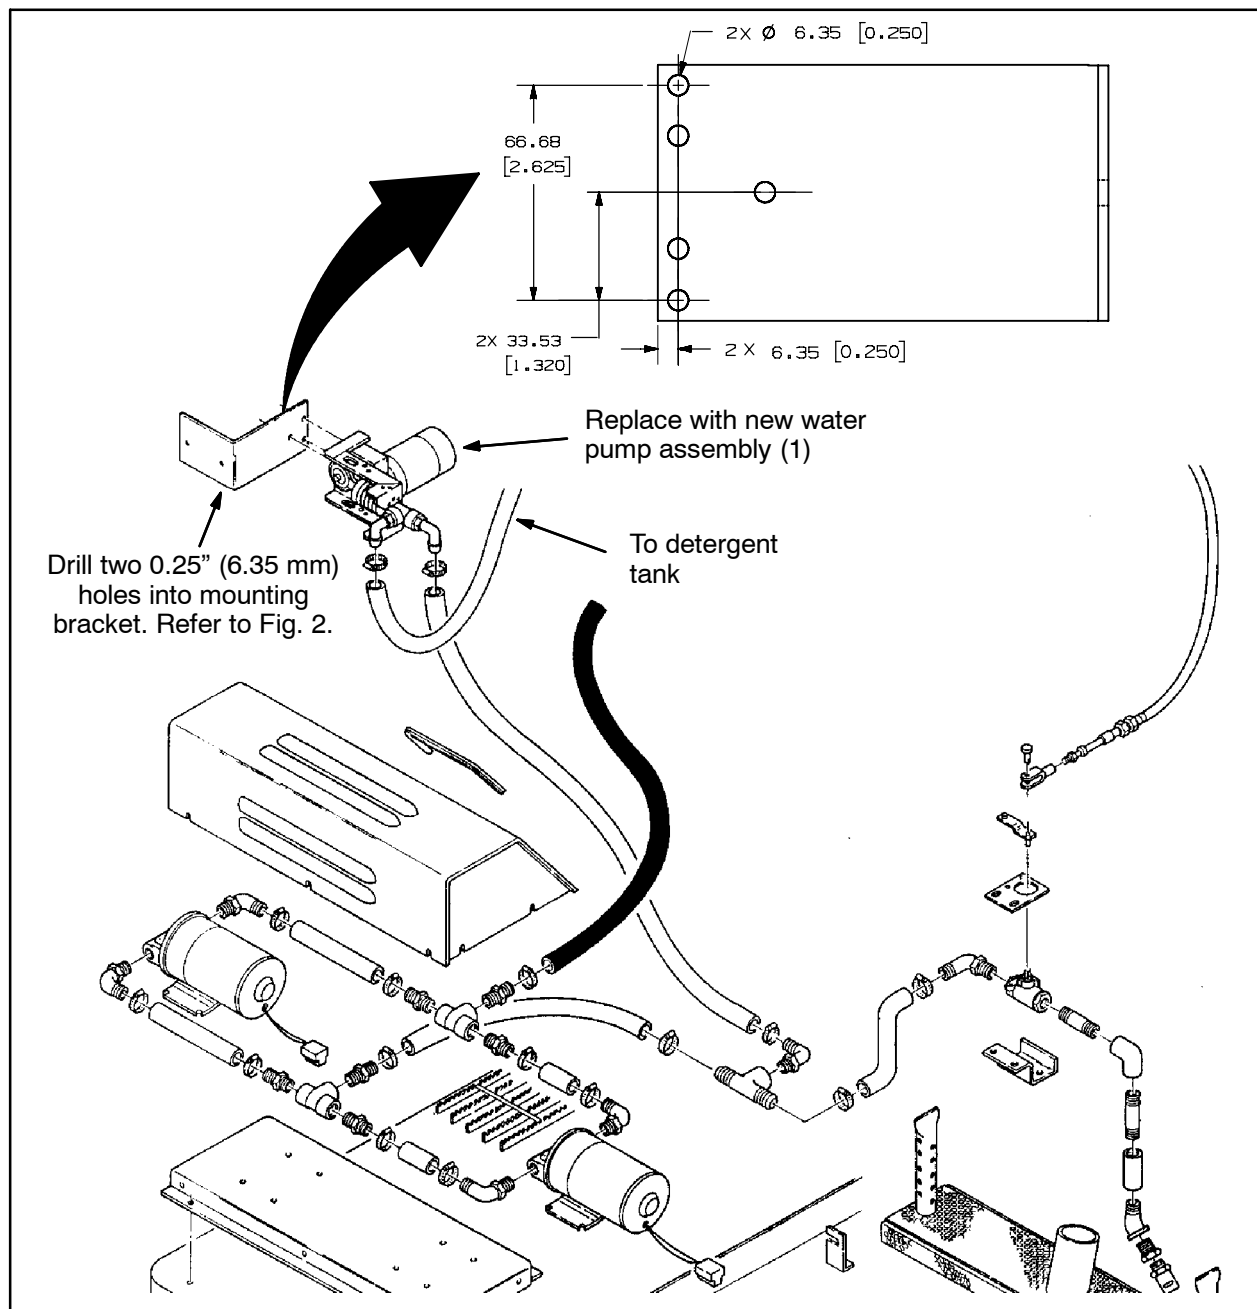

FIG. 1
1. Disconnect the wire harness and all hoses from the existing water pump. Set the hose clamps aside. Refer to Fig. 1.
2. Remove the water pump located beneath the operators seat from the mounting bracket. Discard the water pump and mounting hardware. Refer to Fig. 1.
3. Remove the mounting bracket from the frame of the machine. Set the mounting hardware aside. Refer to Fig. 1.
4. Drill two 0.25" (6.35 mm) holes through the mounting bracket. Refer to Fig. 1.
6. Use two pan screws (2) and two hex nuts (3) to install the new water pump (1) onto the mounting bracket. Refer to Fig. 1.
7. Connect the wire harness to the water pump (1). Refer to Fig. 1.
8. Connect the hoses to the water pump (1). Refer to Fig. 1.